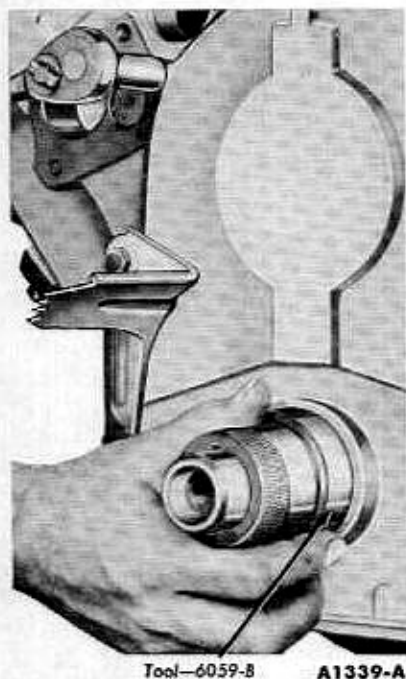

FIG. 43—Cylinder Front Cover Alignment
3. Install the cylinder front cover alignment pilot tool on the cylinder front cover so that the keyway in the pilot aligns with the key in the crankshaft. Position the cover and pilot over the end of the crankshaft and against the block (Fig. 43).